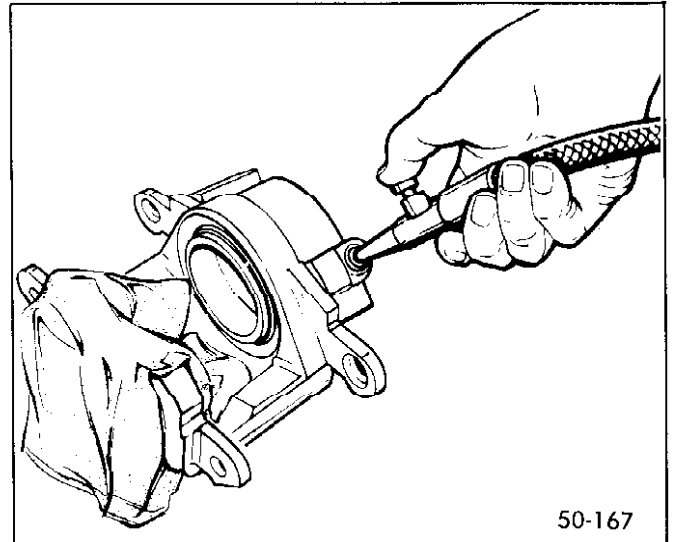

Figure 50-57--Removing Piston
3. Use clean shop towels to pad the interior of the caliper and remove the piston by directing compressed air into the caliper inlet hole. See Figure 50-57.